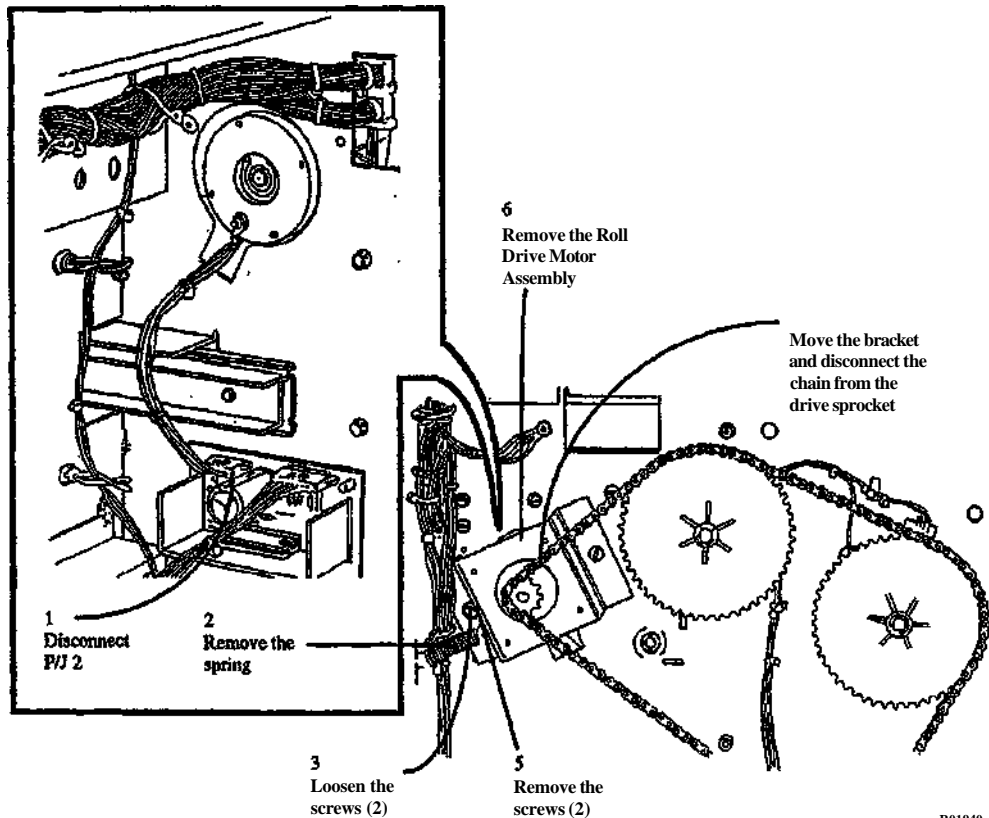

Figure 1. Removing the Roll Drive Motor Assembly
2. (Figure 1): Remove the Roll Drive Motor Assembly.